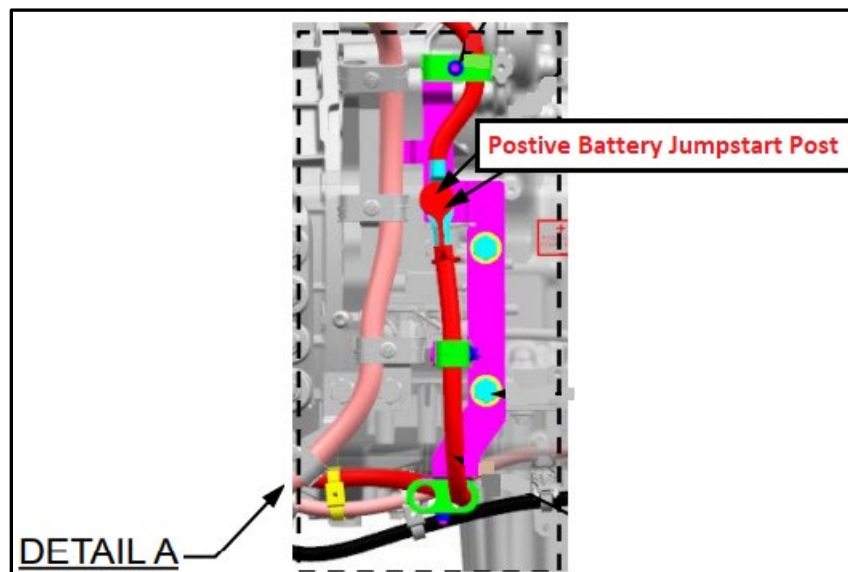

Fig. 1, Positive Battery Jumpstart Post
2. See the installation drawing (D66-24521-001) for the location of the positive battery jumpstart post on the right-side frame rail. Note detail "A." See **Fig. 1**.